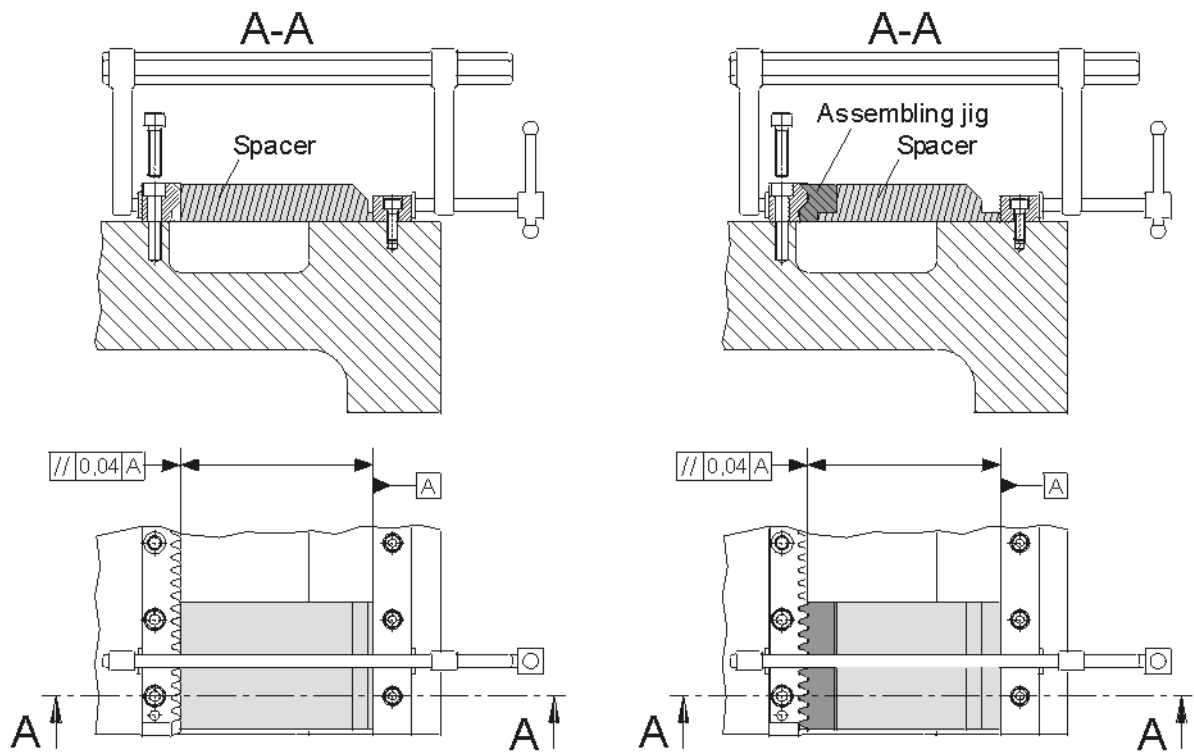

Fig. 6.3
The threaded holes for the fastening screws have to feature a sufficient screw-in depth depending on the material of the machine base. The parallelism between 20 mm and 40 mm to the sled guide is achieved by with a distance piece (see Fig. 6.3) during assembly (the parallelism should lie ideally within the prescribed parallelism tolerance of the manufacturer of rail guides).
Ü Manufacture a spacer especially for your machine (possible design, see Fig. 6.3).
- J For precise positioning, clamp an assembly feeler gauge with spacer (see Fig. 6.3 in Chapter 6.1.2) between toothed racks and guide rail.